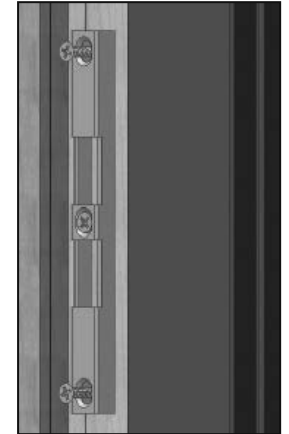

FIG. 27
- C) Sliding patio doors: After the operating panel and keeper are adjusted to the optimal position, apply the supplied #10 x 1-1/4" screws through the top and bottom holes of the keeper. Pre-drill the holes using a 1/8" bit prior to assembly. (Fig. 27)